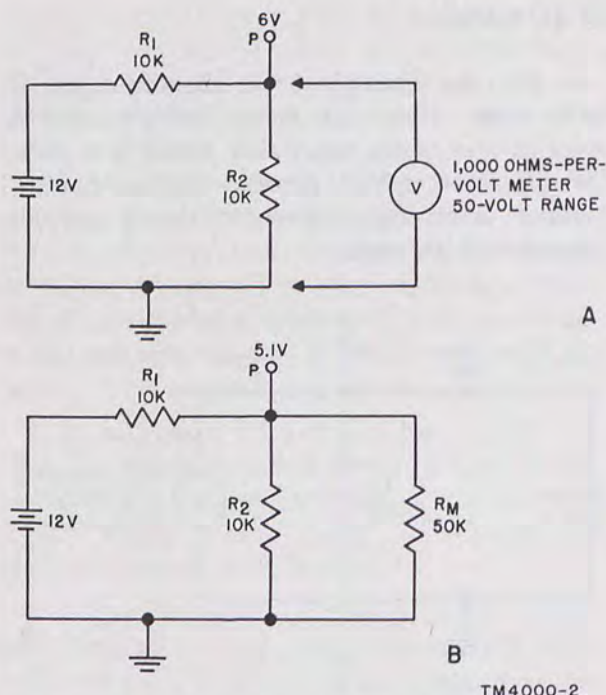

Figure 16. Reducing circuit loading by using higher voltage range.
b. In A, figure 16, the voltage is measured between point P and ground with a 1,000 ohms-per-volt meter, but the 50-volt scale is used. As shown in B, figure 16, the meter resistance, R_M , is now 50,000 ohms. This value combined with R_1 results in an effective resistance of 8,333 ohms. The voltage read on the meter is 5.1 volts, which means that the difference caused by the
b. The electronic multimeter is connected from point P to ground (fig. 16). The resistance between these two points becomes 9,990 ohms. The current is .6 ma and the voltage is 5.99 volts. The difference is only .17 percent.